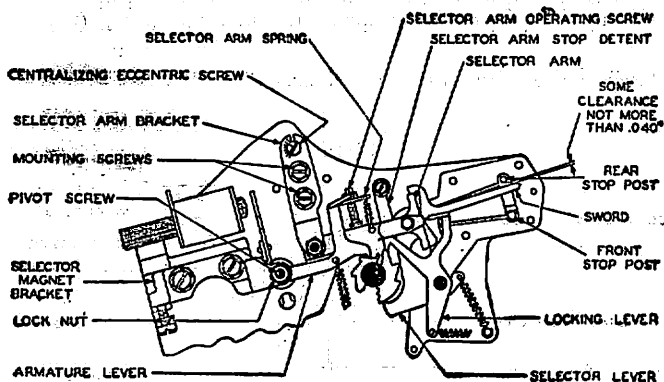

Fig. 5
4.10 **Armature lever** shall have a minimum amount of end play without bind as gauged by eye and feel when armature lever and selector arm springs are unhooked. See Fig. 5.
4.13 Selector swords shall clear both stop posts by approximately equal amounts, not more than .040", measured as in Fig. 5 after removing locking lever and selector arm springs, placing associated selector lever on peak of its cam,